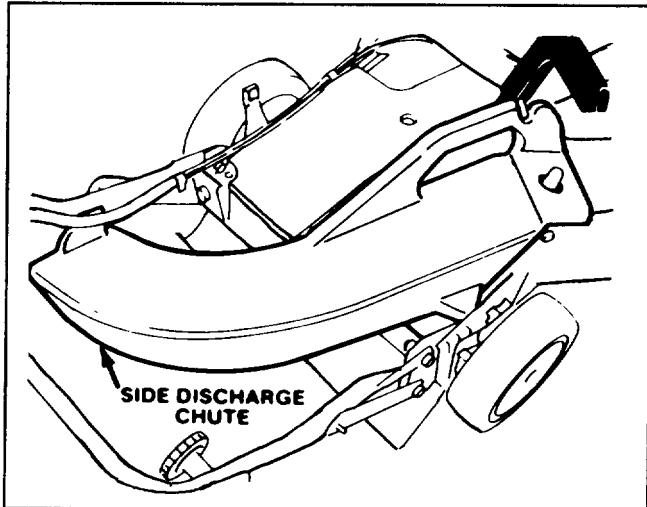

Figure 25
1. **Side Discharge Kit, Model No. 59168**—Installs in seconds. Rear mounted in place of the grass bag. Disperses clippings while allowing trimming on both sides (Fig. 25).